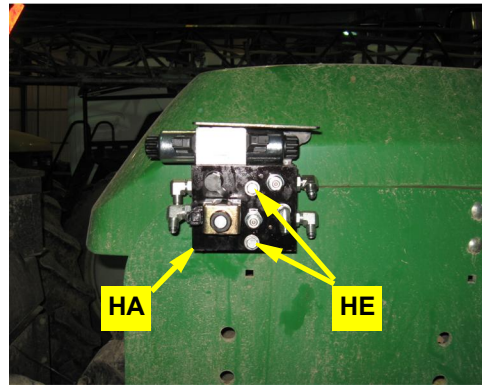

Figure 3: Installed steering block
- a. Place the hydraulic steering block **HA** against the bracket **HD** and secure with hardware **HE**. (Figure 3).